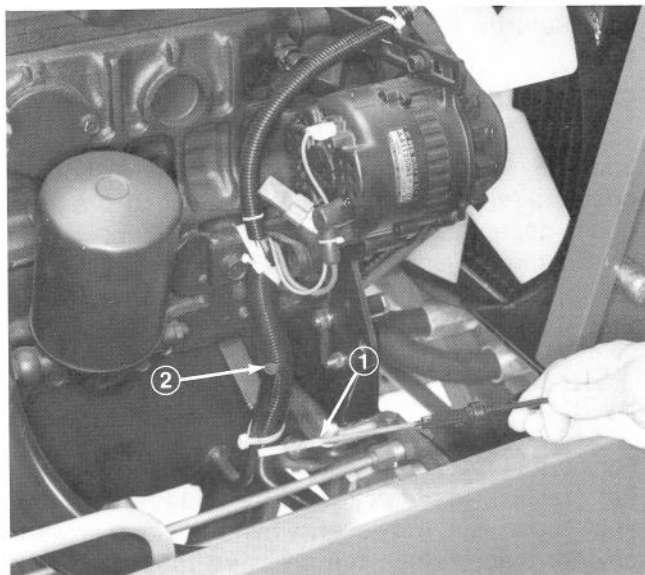

Figure 3
3. Remove dipstick, wipe clean and reinstall dipstick into tube and pull it out again: Oil level should be up to FULL mark (Fig. 3).